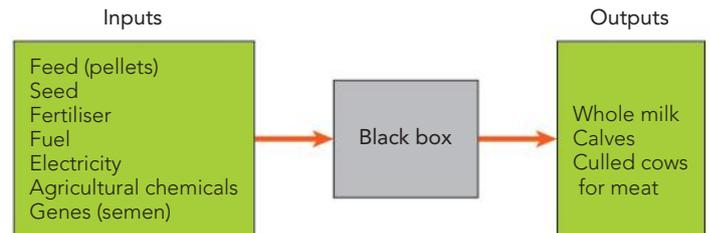

Figure 13.5 Black box model of 'Mosleigh' dairy farm
Mark Oliver's dairy farm can be examined in terms of a **black box model**. A black box model shows the inputs and outputs of a farm or enterprise (see Figure 13.5).
- processes – the activities that change inputs into the desired outputs (e.g. milking, mating, calving, culling). Processes occur in the black box part of Figure 13.5 but are not identified or explained.